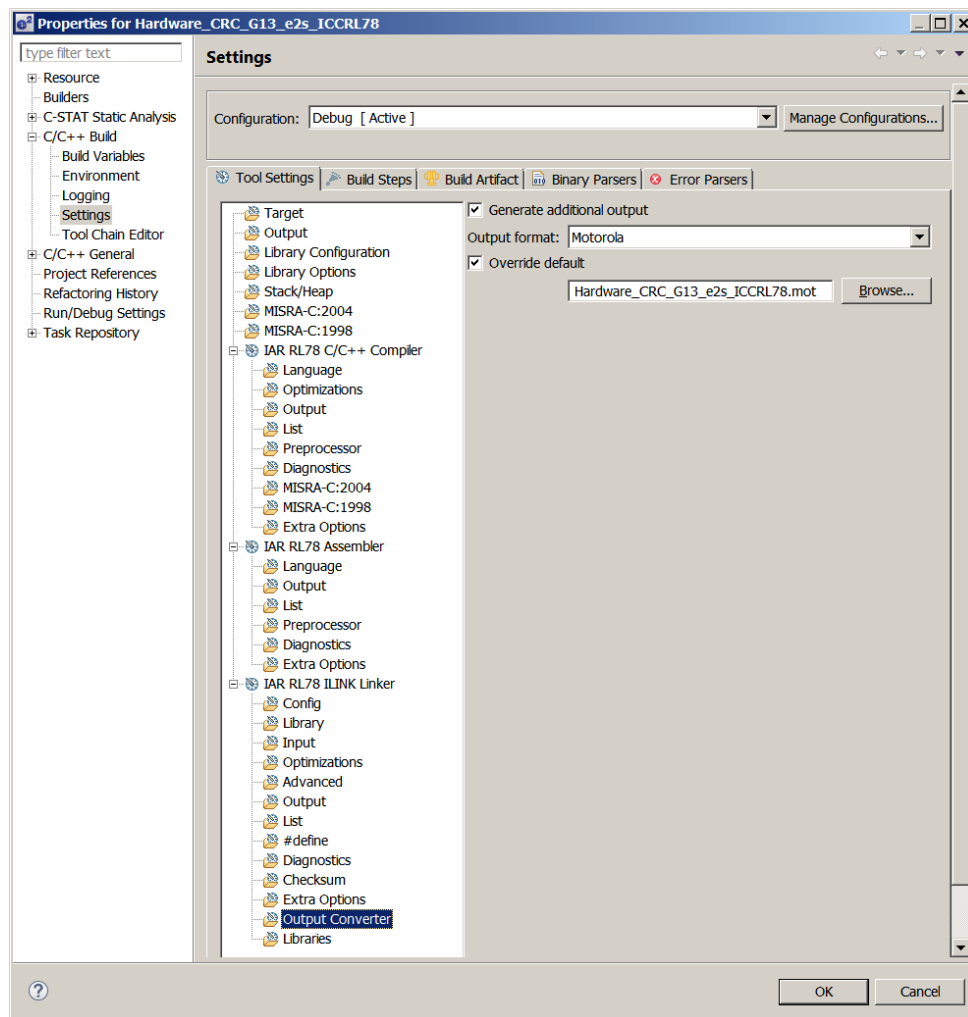

Figure 8: Linker Output Converter Options in e2studio/IAR settings
- Set an additional hex output file in n e2studio Project >> Properties >> Settings >> IAR RL78 ILINK Linker >> Output Converter (See Figure 8.)